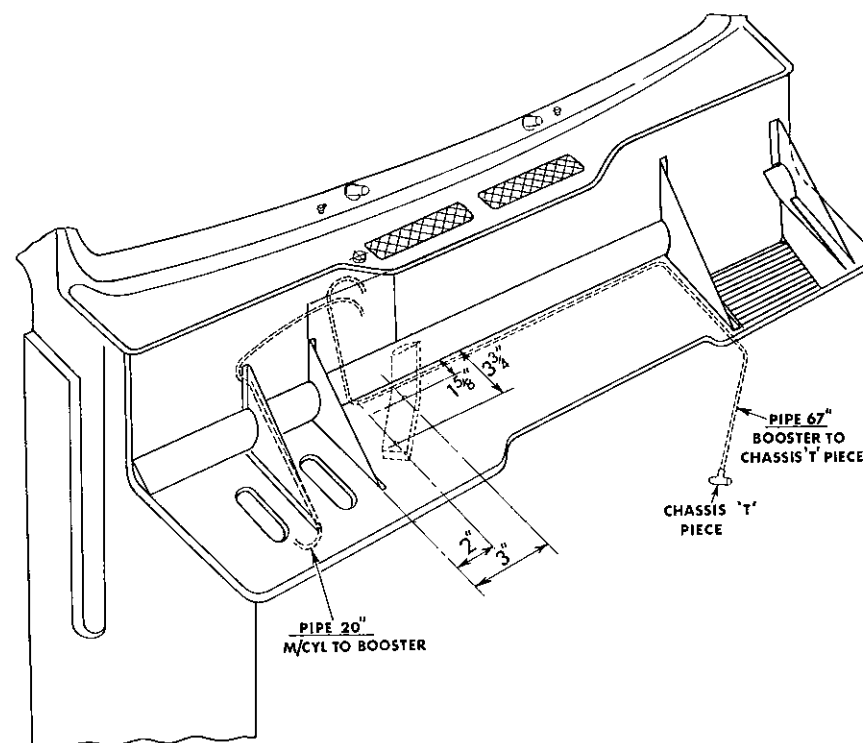

Fig. 25. Bulkhead shelf drilling location for lower power stop mounting bracket
3. Using the Powerstop and bracket assembly as a template, mark off for position and drill three holes for securing the brackets to the bulkhead ledge (Fig. 25.)